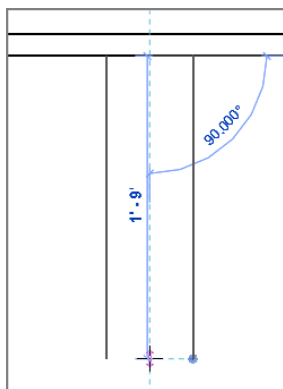

FIGURE 12.54: By setting an offset of 3" (75mm), you can draw two lines using a common centerline.
11. For the first point of the line, pick the midpoint of the bottom line, as shown in Figure 12.54.